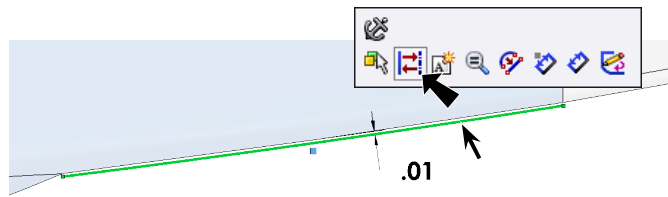
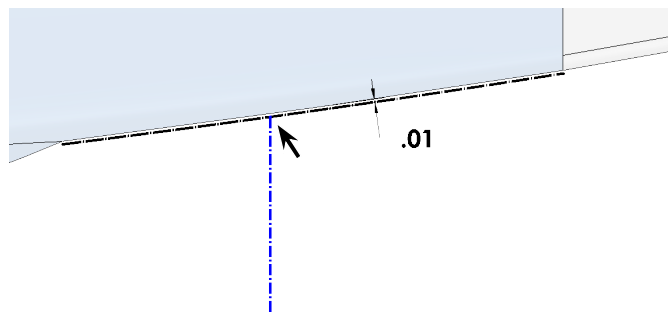
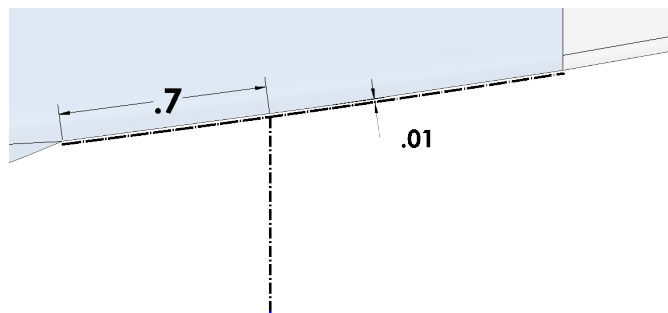

Fig. 6
Fig. 7
Fig. 8
Step 6. Click the **offset spline** and click **Construction Geometry**  on Context toolbar, **Fig. 6**.
Step 7. Click **Centerline**  (S) in the **Line flyout**  on the Sketch toolbar.
Step 8. Draw **vertical centerline down from offset entity**, **Fig. 7**.
Step 9. Click **Smart Dimension**  (S) on the Sketch toolbar.
Step 10. Dimension left endpoint of offset to vertical construction line **.7**, **Fig. 8**.